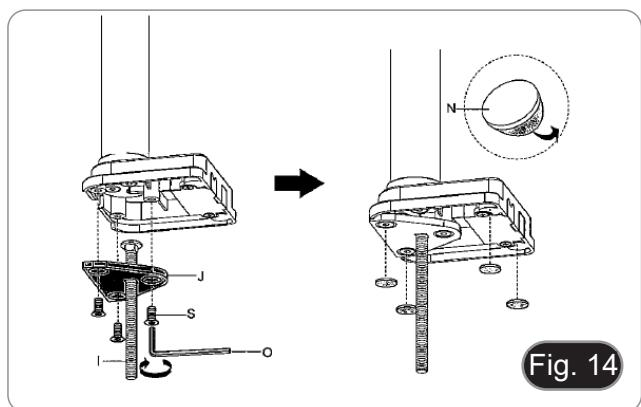

Fig. 14
3. Insert the screw (I) into the fixing plate (J).
4. Tighten the fixing plate using the three screws (S). (Fig. 14)
5. Stick the rubber damps (N) to the table clamp.